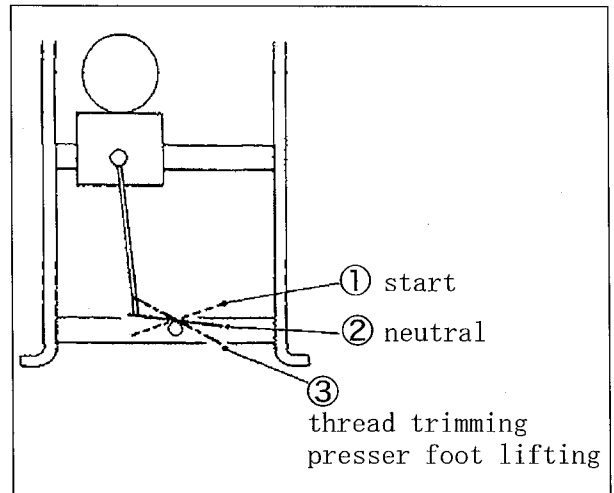

Fig. 3
- (1) Heel back the pedal to raise the presser foot.
- (2) Place a fabric under the presser foot and toe down the pedal. (Fig. 3 ①)
- (3) Release the pedal. (Fig. 3 ②)
- (4) Heel back the pedal. (Fig. 3 ③)
- (5) Release the pedal. (Fig. 3 ②)